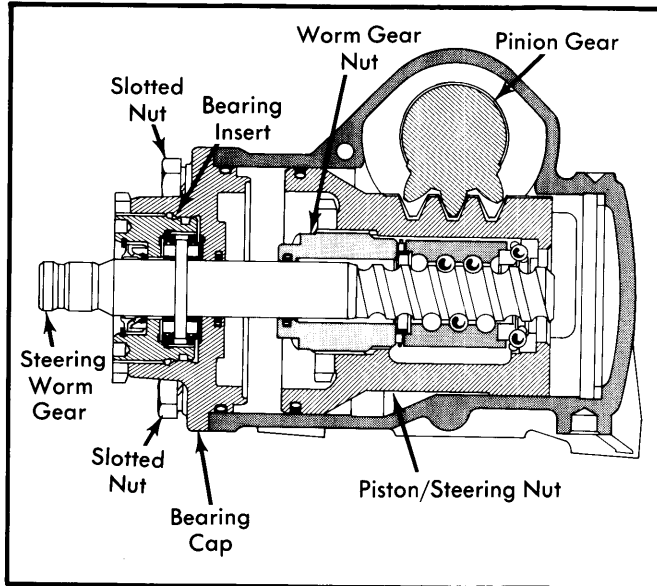

Fig. 5 Cross Sectional View of Steering Gear
11) Remove bearings from piston/steering nut, then remove lock ring, cover and control valve from steering gear case. See Fig. 5.